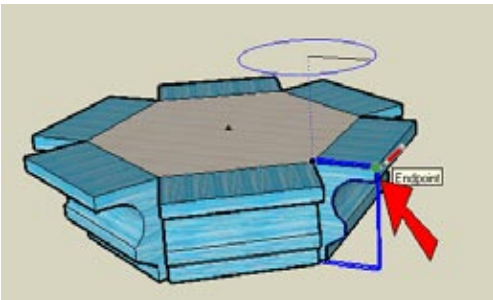

Figure 4-28
7. To establish the radius of the circle, click on any point along the top edge of the group. This ensures that a circle segment will start just above the group, so the round Follow Me object will align perfectly with the Push/Pull objects (Figure 4-28).